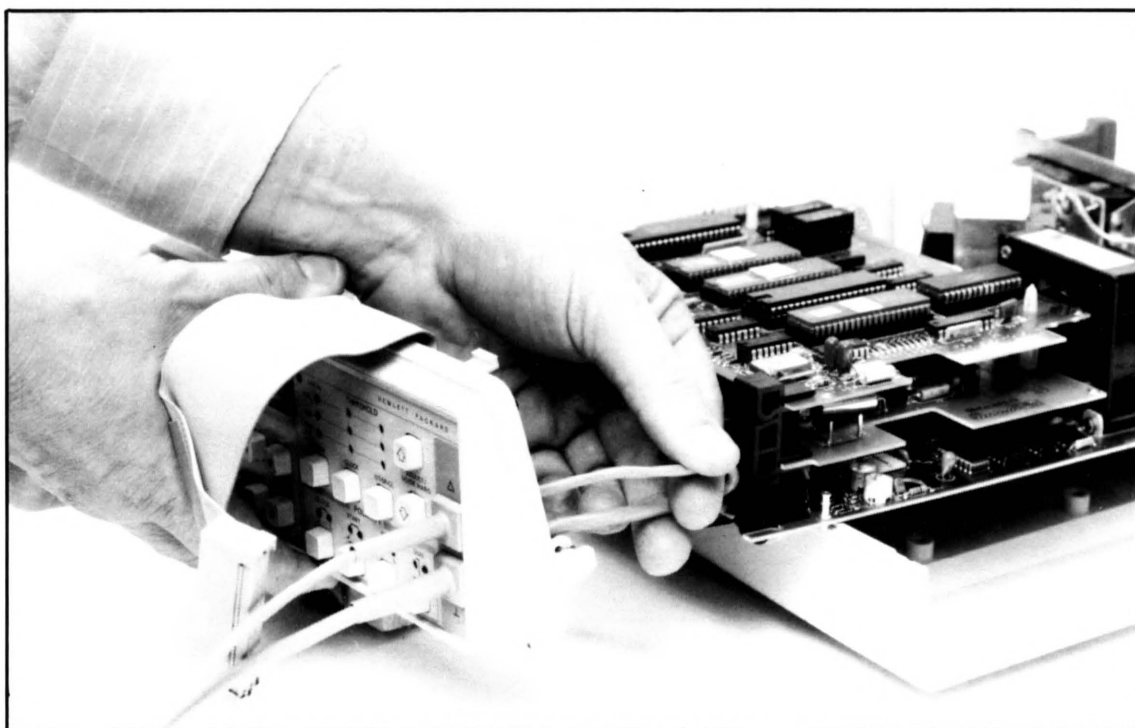

Figure 8-6. Reposition Front Panel
- e. Repositioning of the front panel housing. For better access to the various assemblies, the front panel housing of the instrument can be repositioned. Using needle-nose pliers, remove the two retaining springs holding the front panel housing to the main instrument. Disconnect the 34 line flat ribbon cable from the right side of the A3 Microprocessor Assembly. Slide the housing straight forward, off the PC board guides, while feeding the Data Probe and Timing Pod cables carefully through the front panel cable boots. See *Figure 8-6*. Replace the flat ribbon cable.